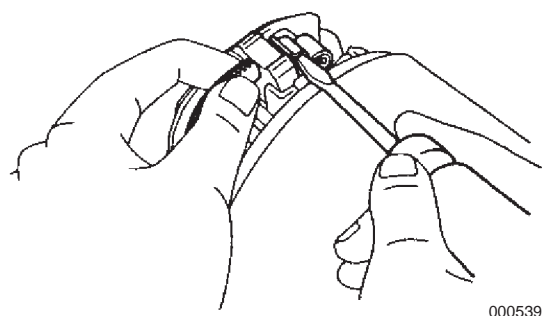

Figure 10-9
7. Secure the rear of the spring tang using a screwdriver (**Figure 10-9**) and remove the brush from the brush holder. Remove the 4 brushes and then the brush holder.